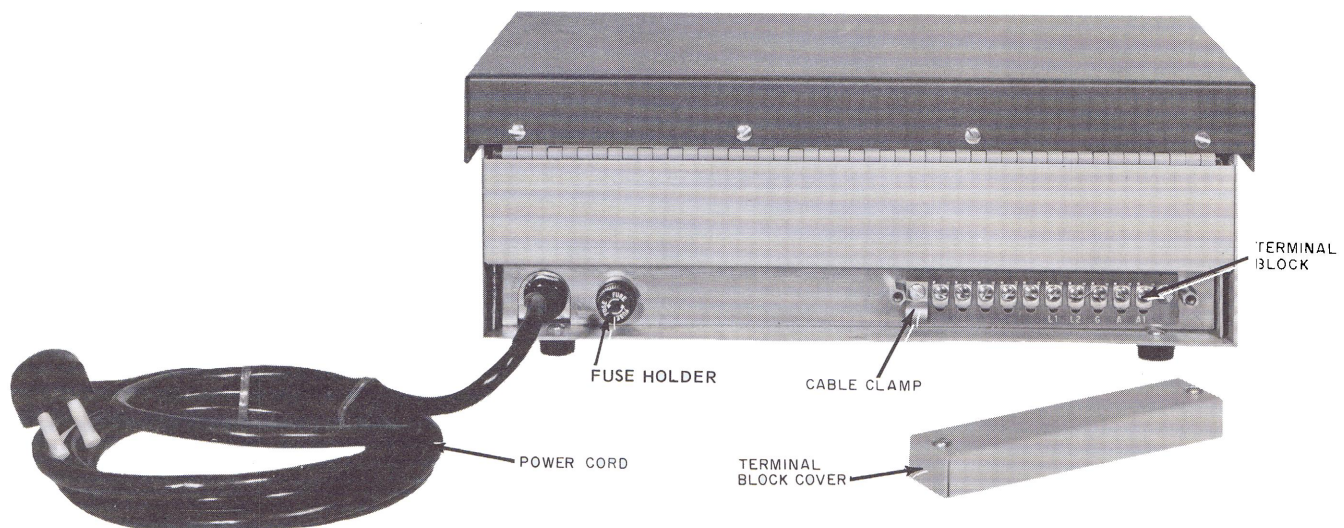

Figure 2. Model AO-3 (Rear View).
2.05 Connect a three wire, insulated cable (preferably of red, green, and yellow insulation) to the terminal block. Connect red lead to L1, green to L2, yellow to G (see Figure 2). Secure the cable clamp and replace the terminal block cover.
2.07 At 10A1 (or 1A1) key system installations, terminate A and A1 leads on terminal block terminals so designated (see Figure 2).
4.05 The main power fuse (F1) is located at the rear of the set. (See Figure 2). If the fuse is blown, replace with 3/8-amp 3AG or AGC size.